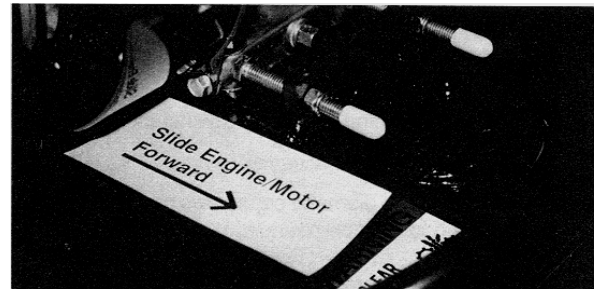

FIGURE 34
4) Using the 1/2 inch wrenches, loosen the engine/electric motor attachment capscrews, and slide the engine/electric motor toward the front of the main frame. FIGURE 34.